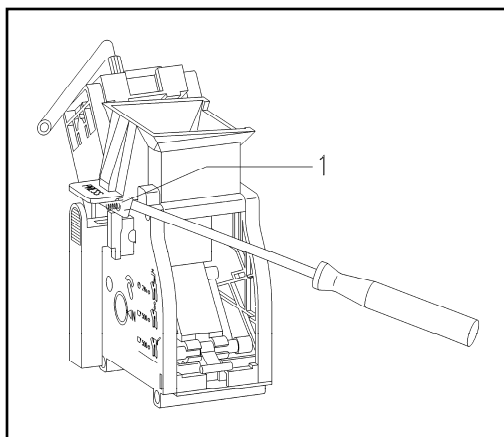

Figure 5-28: Front of Brew Unit, Showing Spring Location and Holder
3. Lever the funnel upwards out of its holder (Figure 5-28).
When installing the Funnel, ensure the spring (Figure 5-28, Item 1) is seated correctly.